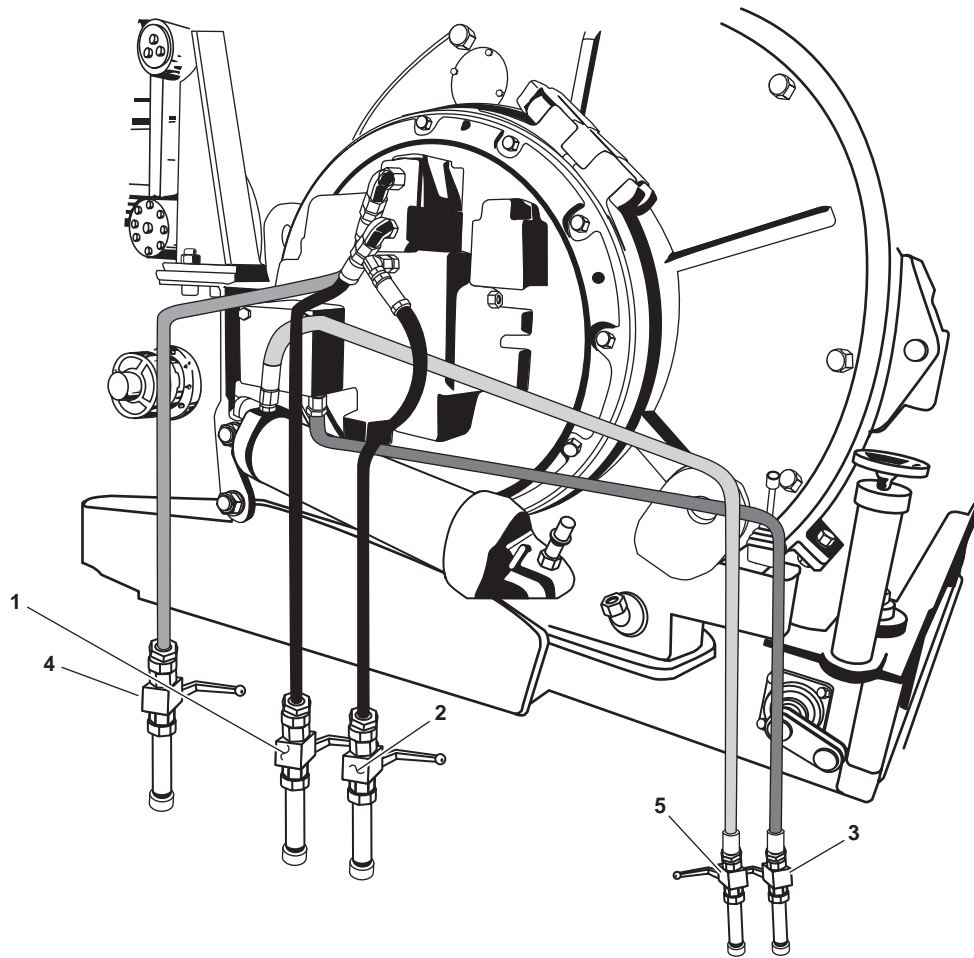

Figure 9. Port Towing Machine Isolation Valves
- TH-30, PORT TOW WINCH RETURN TO RSVR (figure 9, item 1)
- TH-32, PORT TOW WINCH PRESS TO DRUM (figure 9, item 2)
- TH-34, PORT TOW WINCH DR TO RSVR (figure 9, item 3)
- TH-36, PORT TOW WINCH DR TO RSVR (figure 9, item 4)
- TH-38, PORT TOW WINCH BRAKE DR RSVR (figure 9, item 5)